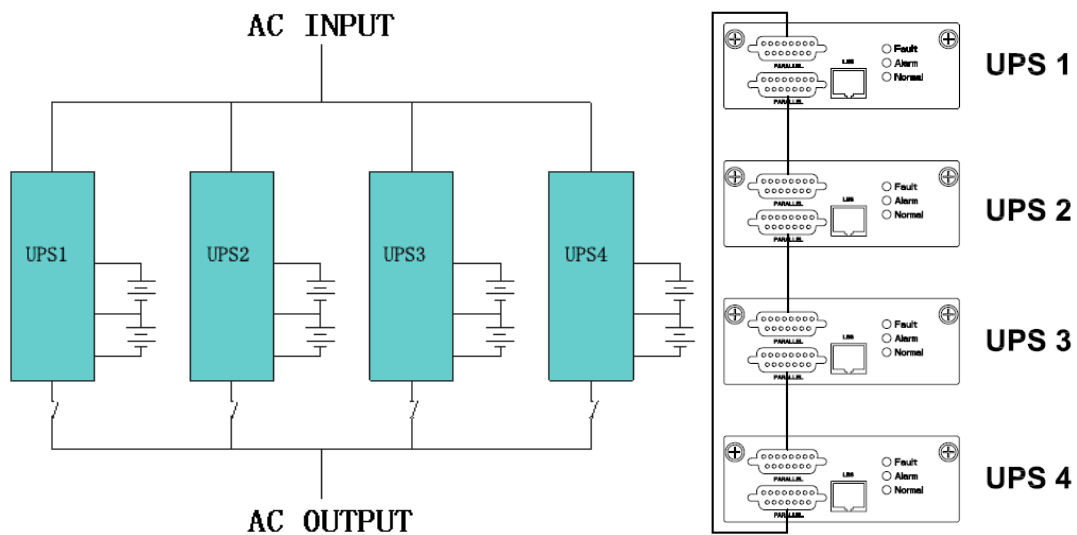

Figure 74: Parallel System Power/Control Connections (3-Phase UPS)
Follow the power and control wiring as indicated in Figure 74.
3. Connect the Parallel System Control (see Figure 74):
- a. Connect the shielded and double insulated control cables (one provided with each 3-Phase UPS unit) in a ring configuration between UPS units in the parallel system as shown in Figure 74. The ring configuration ensures high reliability of the control.